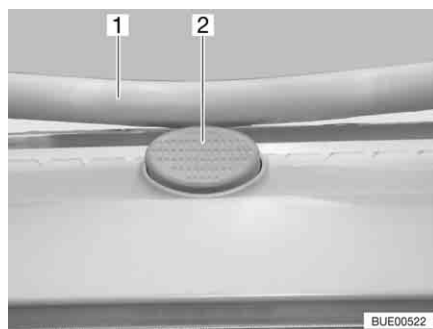

Fig. 96 Safety knob on the Heki skylight
- Press the safety knob (Fig. 96,2) and pull the bar (Fig. 96,1) down with both hands.
- Push the bar upwards with both hands until it is above the safety knob (Fig. 96,2).